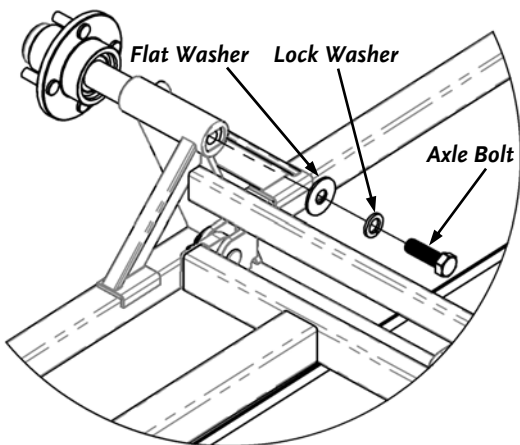

Figure 10
8. Install a M16 x 30mm Axle Bolt, Lock Washer and Flat Washer (**Figure 10**) into the Axle End and tighten with a 24mm Socket or Adjustable Wrench. Repeat for the other side.